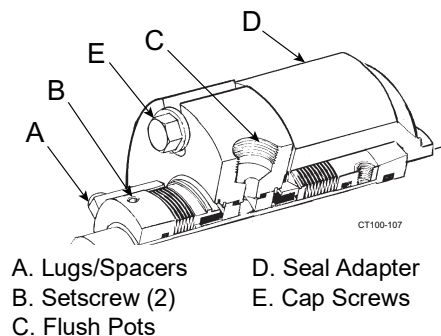

Figure 58 - Typical Cartridge Seal
NOTE: *Be sure the flushing ports in the cartridge seal are positioned with the inlet toward the bottom and the outlet toward the top (Figure 58, item C).*
14. Hold the backplate in place and tighten the cartridge seal into the cartridge adapter by tightening the cap screws (Figure 58, item E).
16. Tighten the two setscrews to the shaft (Figure 58, item B).
17. Remove the lugs/spacers (Figure 58, item A).